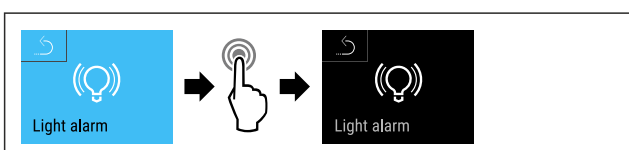

Fig. 153
- ▶ Complete steps (see Fig. 153).